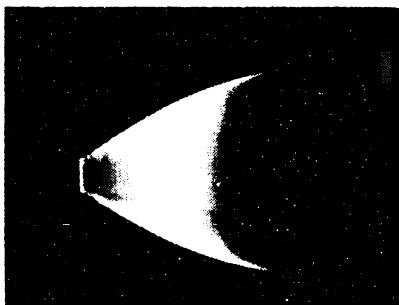
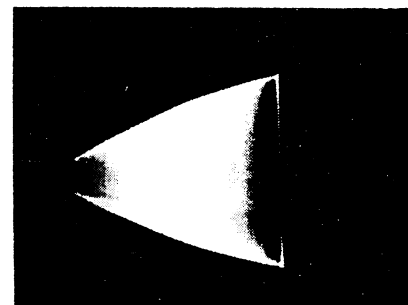

Figure 3-4. Correct Limiting, as indicated by a Trapezoidal Pattern.
Figure 3-5. Incorrect Limiting, as indicated by a Trapezoidal Pattern.
- f. If the scope pattern appears to have a well defined limit point in the direction of negative modulation, as shown in Figure 3-4, the Volumax output is connected properly, that is, controlling the negative modulation peaks. If however, no distinct limiting is evident on the negative modulation peaks, but does show up in the positive direction as in Figure 3-5, the output leads of the Volumax must be reversed.